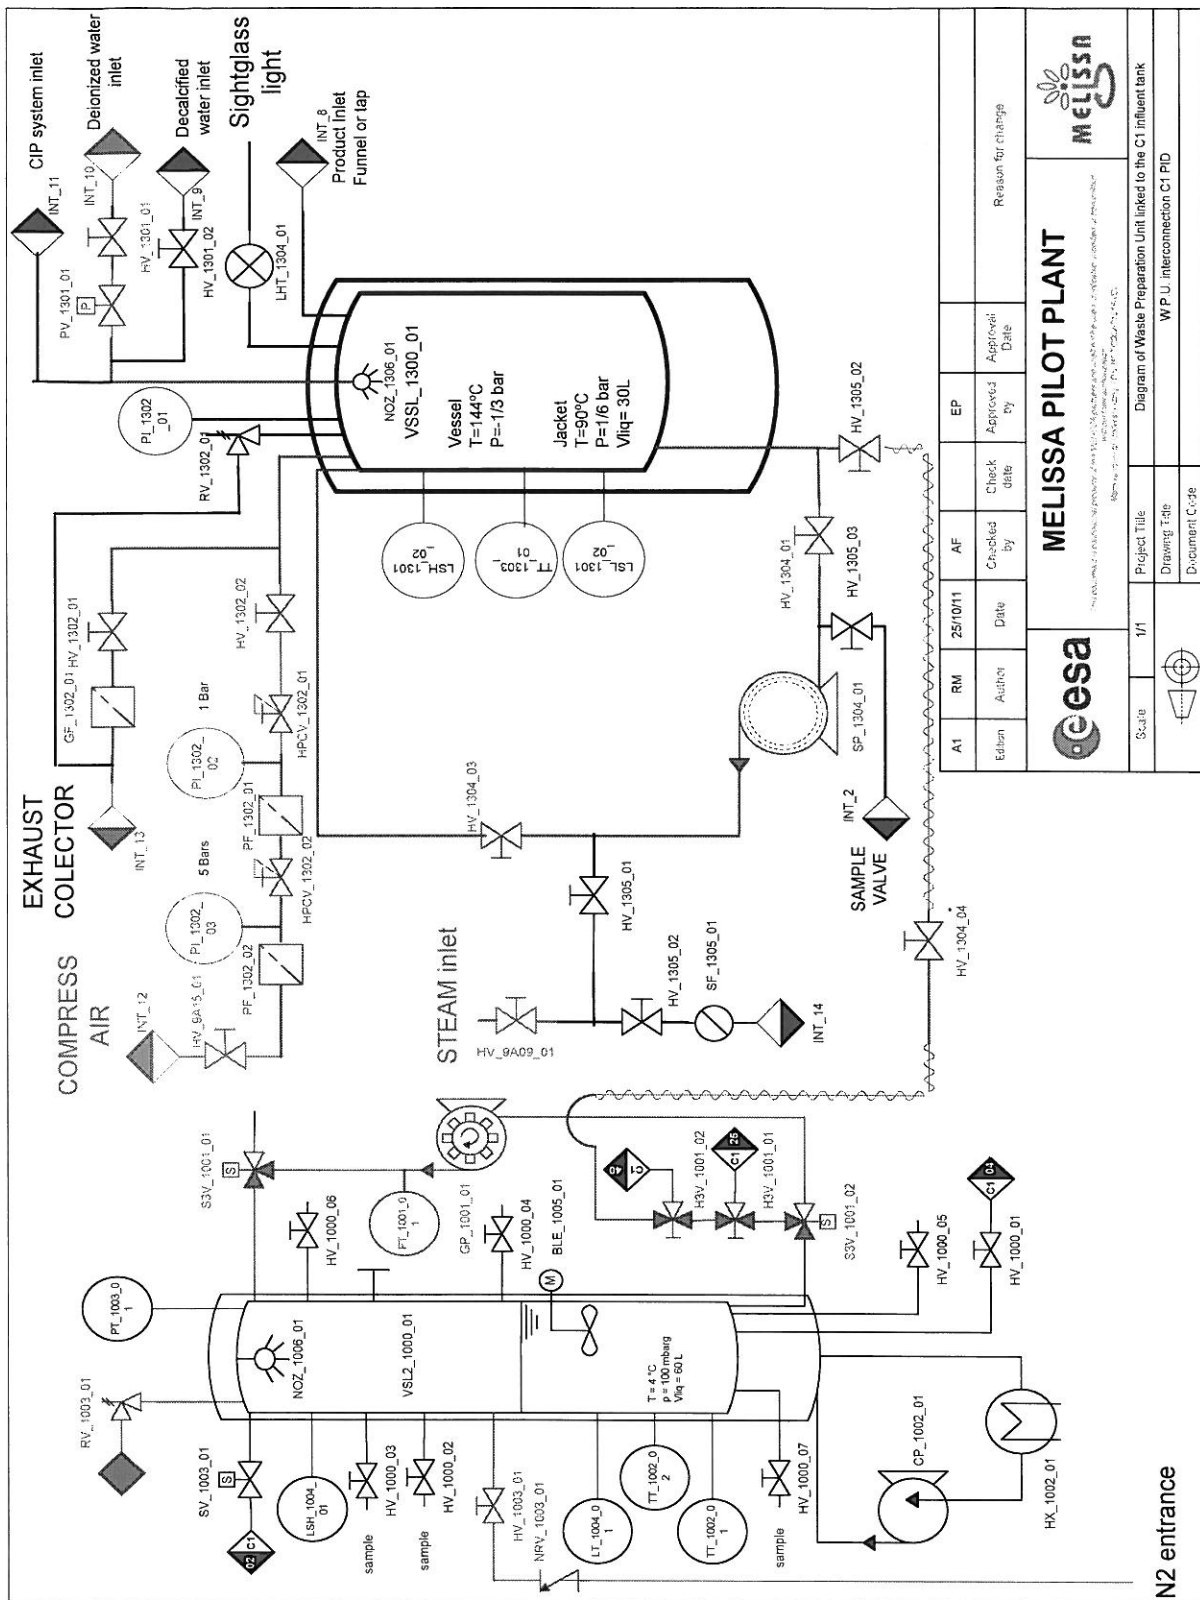

Fig. 7. P&ID of Interconnection between WPU and C1 compartment
- 11.5. Close the N2 entry manual valve HV\_1003\_01 to avoid the loss of N2 during the transfer procedure (see figure 7).
- 11.19. Close the upper port of the Influent tank safety valve RV\_1003\_01 and open the N2 supply manual valve HV\_1003\_01 to the influent tank (see figure 7).